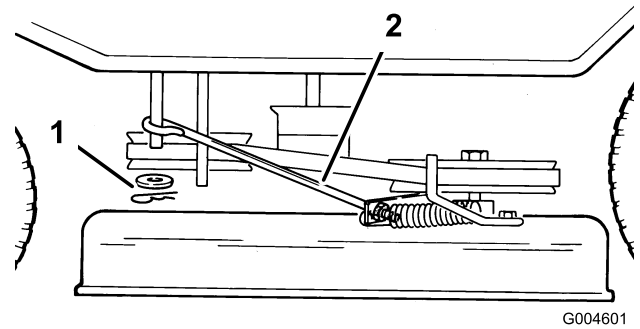

Figure 37
11. Remove the hairpin cotter and washer from the blade control arm on the left side of the mower (Figure 37).
17. Install the blade control rod onto the blade control arm and secure it with the washer and hairpin cotter (Figure 37).